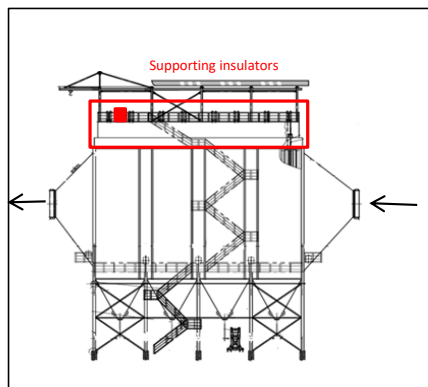

Fig.1 Supporting insulator and shaft insulator
1. The supporting insulator was normal condition, with only a dust buildup. (Fig.1)